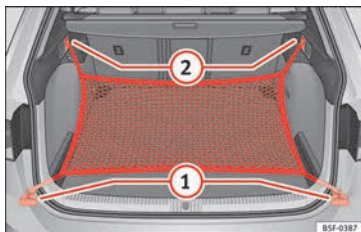

Fig. 176 In the luggage compartment: rings (1) and hooks (2) for securing the net bag (LEON ST model).
- Secure the short net hooks to the fastening rings » Fig. 176 (1) » ⚠. The bag zip should be facing upwards.
- Secure the straps in the bag hooks (2).